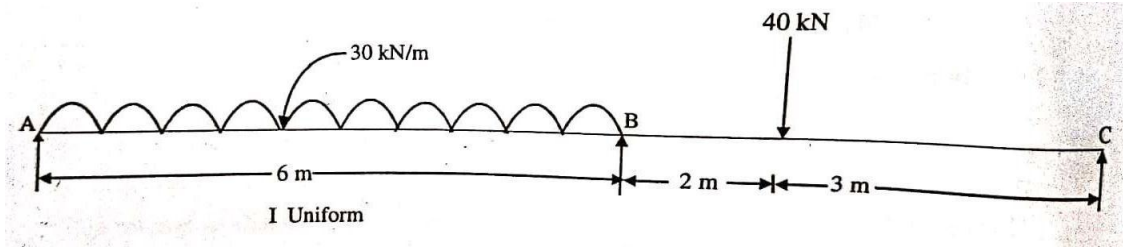

Fig. 3
7. Analyse the continuous beam shown in Fig. 3 by the moment distribution method. 14M